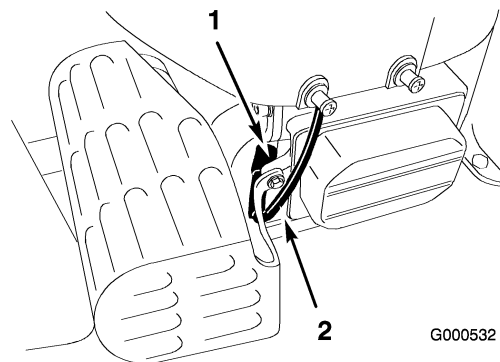

Figure 30
2. Pull the wire off of the spark plug (Figure 30). Clean around the spark plug to prevent dirt from falling into the engine and potentially causing damage.
3. Push the wire onto the spark plug (Figure 30).